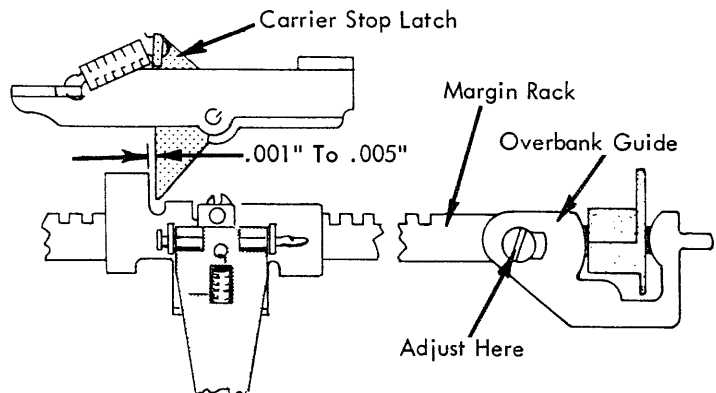

FIGURE 147. Margin Rack Overbank Guide Adjustment
- b. Late - With the carrier resting at the left margin stop, adjust the margin rack overbank guide (Fig. 147) left or right on the margin rack to obtain a clearance of .001" to .005" between the stop latch on the carrier and the left hand margin stop. On machines equipped with a floating stop latch, the floating action of the latch must be removed, by pulling the latch to the right with a spring hook, before this clearance can be observed.